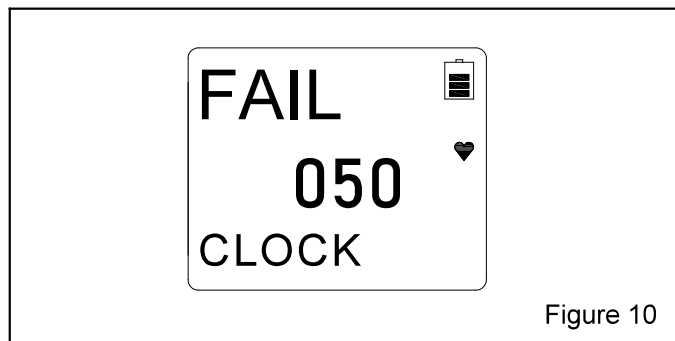

Figure 10
3.4.5 Responding to Clock Failure Alarm – Figure 10